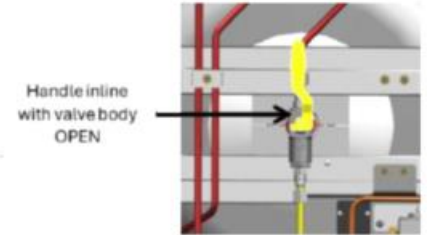

figure 1
- Turning off (CLOSING) Ball Valve style valve, turn the valve handle clockwise until handle stops turning. Turning on (OPENING) Ball Valve style valve, turn the valve handle counterclockwise until handle stops turning. (figure 1 and 2)